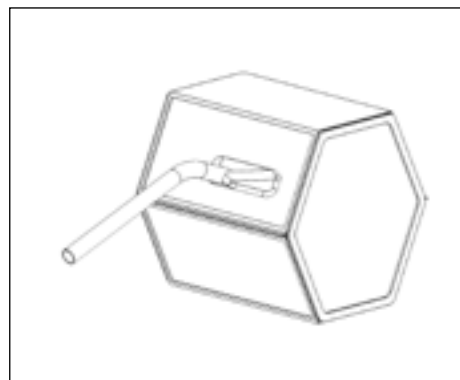

Fig. 8.p
- Clean the fans every year with a vacuum cleaner. The actual need to perform this operation may vary depending on indoor and outdoor ambient conditions and on frequency of filter cleaning. Do not move the motor balance clips (Fig. 8.k-l-o-q).